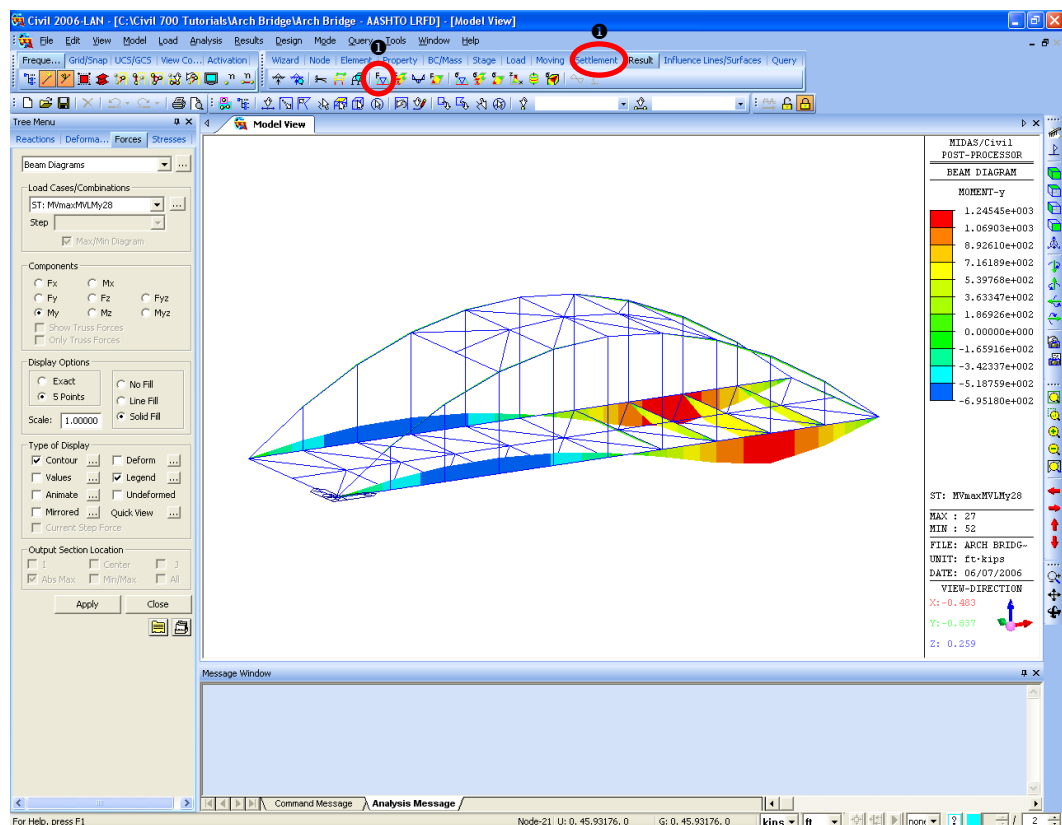

Figure 4.36 My beam diagrams for the live load converted into static load
1. Select  **Beam Diagram** on the **Result** tab in toolbar (Figure 4.36 ❶).